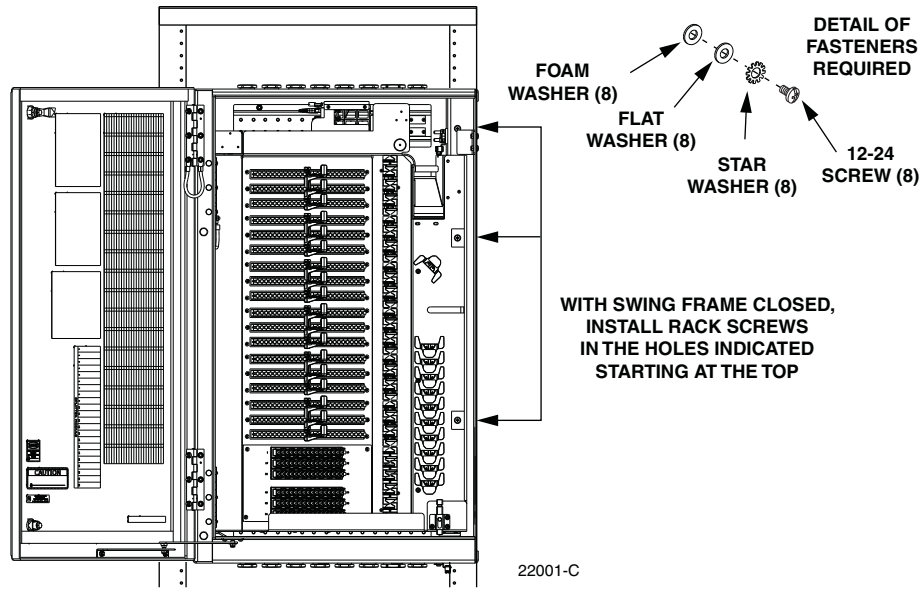

Figure 8. Right Side Mounting Holes Accessible with Swing Frame Closed
15. Open the cabinet door and install a single 12-24 rack screw (with star washer, flat washer, and **foam washer**) in the top hole on the **right** side of the cabinet as shown in Figure 8.